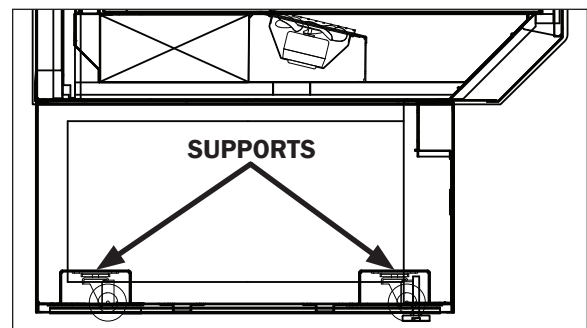

Fig. 2 Vertical (caster) supports
7. Locate horizontal or vertical (caster) support positions along the chalk line (Fig. 2). Spot properly leveled shim packs at each support location.